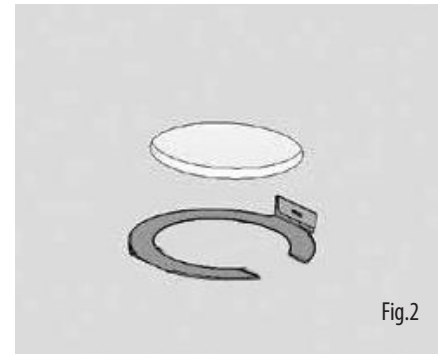

Fig.2
2. Cut out the hole in the ceiling using a pad saw, then slide the C-Ring into the ceiling, aligning it over the cut-out hole. (Fig.2)